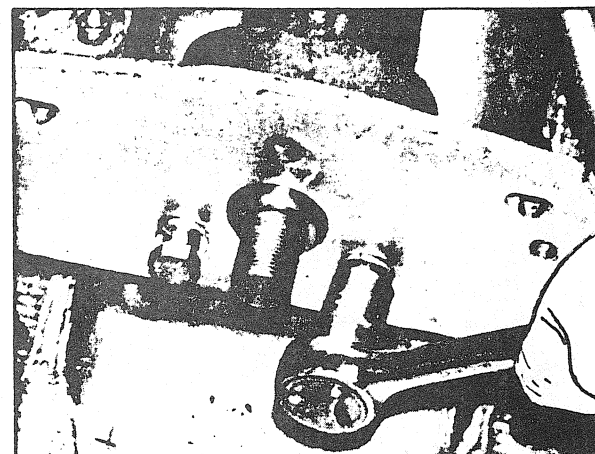

FIGURE 23
- Unscrew the three (3) capscrews from the rear mount bracket and remove the bracket (fig. 23).